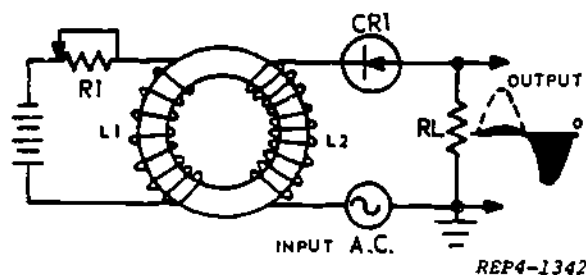
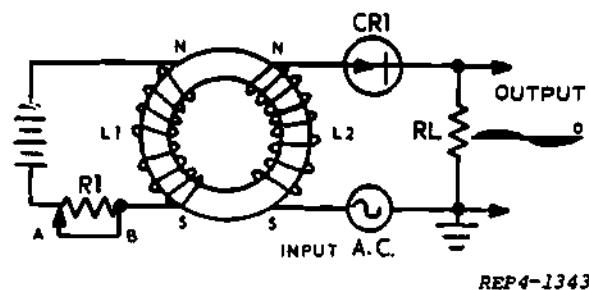
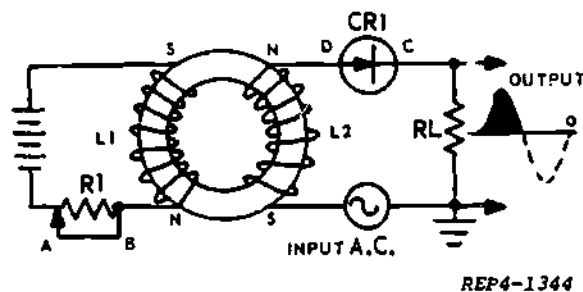

Figure 8-12. Half-Wave Magnetic Amplifier
Figure 8-13. Half-Wave Magnetic Amplifier, No Output
Figure 8-14. Half-wave Magnetic Amplifier, Positive Output.
8-35. The schematic for the basic half-wave magnetic amplifier is shown in figure 8-12. The saturable reactor in the amplifier is composed of L1 and L2. L1, R1, and the battery make up the control circuit which determines the amount and direction of control flux through the reactor core. The output load circuit is composed of L2, CR1, RL, and the AC power source. One function of the diode is to block the generation of opposing magnetic flux in the core which would generate heat and decrease efficiency. Power will be delivered to the load (RL) when the control and load magnetic fields are aiding and the core saturates. The amount of power
delivered to the load is controlled by the amount of flux produced by the control winding, L1. The greater the control flux, the more power output to the load. The polarity of the output voltage developed across the load is determined by the direction of the control flux in the core and the polarity of the diode in the load circuit. Note that the amplifier in figure 8-12 is producing a direct current through the load. The voltage output is shown as a negative pulse which will average out to a DC level. If either the diode or the control voltage were reversed, the circuit would not have an output (see figure 8-13). However, if both the battery and diode were reversed, the amplifier would produce a positive DC output as shown in figure 8-14.
Figure 8-14 shows the first winding at the side of R1 passing over the core and continuing counterclockwise. Imagine that the fingers of your left hand are wrapped around the core with the windings and in the direction of current flow. Your thumb would point in the direction of the magnetic north pole shown on figure 8-14. The second step is to determine the magnetic north pole of the load winding. The effect of the diode on the AC input must be considered before the **LEFT-HAND THUMB RULE** can be used as before. Since diode current flows from cathode to anode (Point C to D on figure 8-14), it is possible, by employing the rule, to identify the top of the load winding as the magnetic north pole.
8-37. After performing these first two steps, you can find out if the magnetic fields are aiding or opposing. Unlike poles will aid each other and cause the molecular magnets in the core material to align, the flux field to build up and the core to saturate faster. As indicated on figure 8-14, the poles at the top and bottom of the reactor are unlike. The resulting molecular magnet alignment causes saturation and an output pulse will be generated. On the other hand, when the fields are opposing each other the molecular magnets will align in two different directions. Without proper alignment flux cannot build up, the core cannot saturate and an output pulse cannot be obtained. These conditions are illustrated in figure 8-13. After determining if the magnetic fields in the reactor are aiding or opposing, the third step is to determine if there is a positive or negative output pulse. The output pulse polarity will be determined by the direction the diode allows current to flow through the load resistor. Current can be traced on figure 8-14 from ground, through the load resistor, diode and the reactor winding. The voltage drop across the load resistor will cause a positive potential at point C. This means that when current is flowing through the load resistor there will be a positive pulse at the output.
8-38. The fourth and final step is to determine the amount of pulse that will be present in the output. This is achieved by considering the position of the tap on the control resistor (R1) figure 8-14. With the tap in the position shown, maximum current will flow in the control winding. This causes maximum flux which allows early saturation and produces output waveform C of figure 8-15. When the control resistor tap is moved to point B there will be minimum current flowing through the control winding. The magnetic flux will be minimum, the reactor will take longer to go into saturation and waveform A of figure 8-13 will be the output. With the tap in the center position waveform B would be generated.